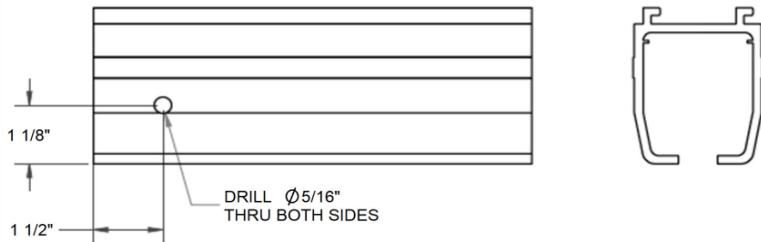

Figure 18: **Clevipin Hole Location**
2. Use a 5/16" bit to drill a hole at the marked spots for the clevis pin (see Figure 18).